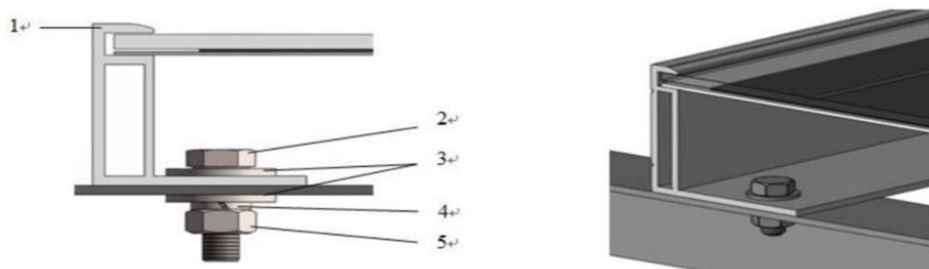

Figure 2. Bolt Installation Diagram
- See Figure 3 for details of the product type and mounting position of modules with bolt mounting (inner 4 holes), and Figure 2 for details of the product type and mounting position of components with bolt mounting (outer 4 holes).